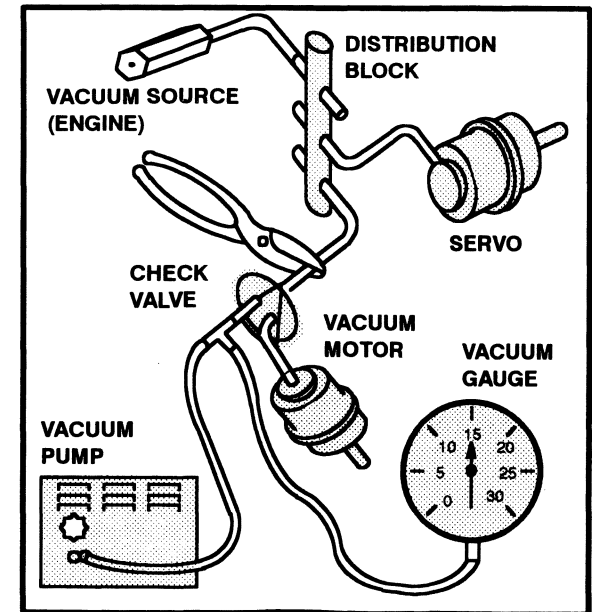

Figure 2 - Testing For Leaks In Typical Vacuum System
- Connect Vacuum Gauge and Vacuum Pump (Figure 2) to system hose in place of tank.
- Clamp supply hoses with needlenose pliers, one at a time, until vacuum stops dropping (Figure 2).